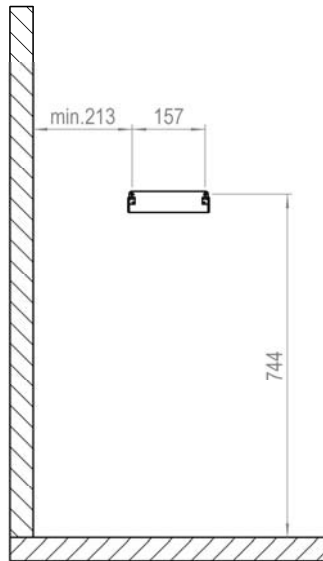

Fig.3b
- With due consideration of the minimum distances, screw the wall bracket to the sauna wall using the four 5x35 wood screws supplied (see Fig. 3b).